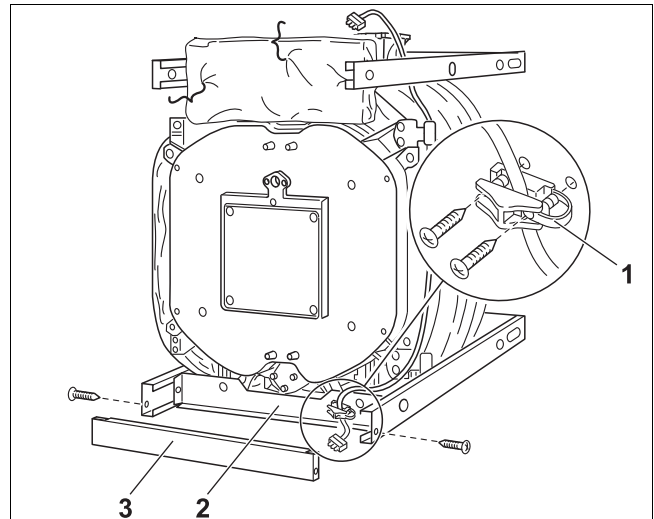

Fig 44 Fitting the burner cable strain relief and plinth panels
- Depending on which side the door closes, screw the burner cable strain relief to the left or right hand side of the lower cross bar (→ Fig. 44 – for right-hand burner door closure).